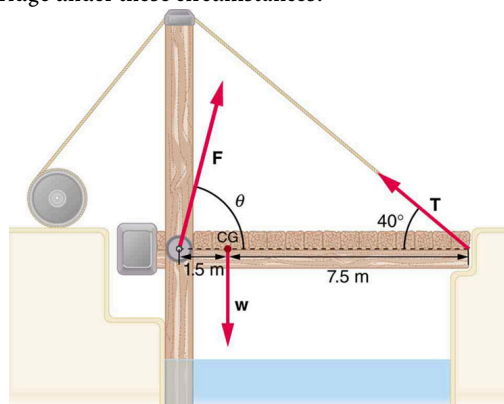

Figure 9.33 A small drawbridge, showing the forces on the hinges (F), its weight (w), and the tension in its wires (T).
12. Suppose the weight of the drawbridge in Figure 9.33 is supported entirely by its hinges and the opposite shore, so that its cables are slack. The mass of the bridge is 2500 kg. (a) What fraction of the weight is supported by the opposite shore if the point of support is directly beneath the cable attachments? (b) What is the direction and magnitude of the force the hinges exert on the bridge under these circumstances?
13. Suppose a 900-kg car is on the bridge in Figure 9.33 with its center of mass halfway between the hinges and the cable attachments. (The bridge is supported by the cables and hinges only.) (a) Find the force in the cables. (b) Find the direction and magnitude of the force exerted by the hinges on the bridge.